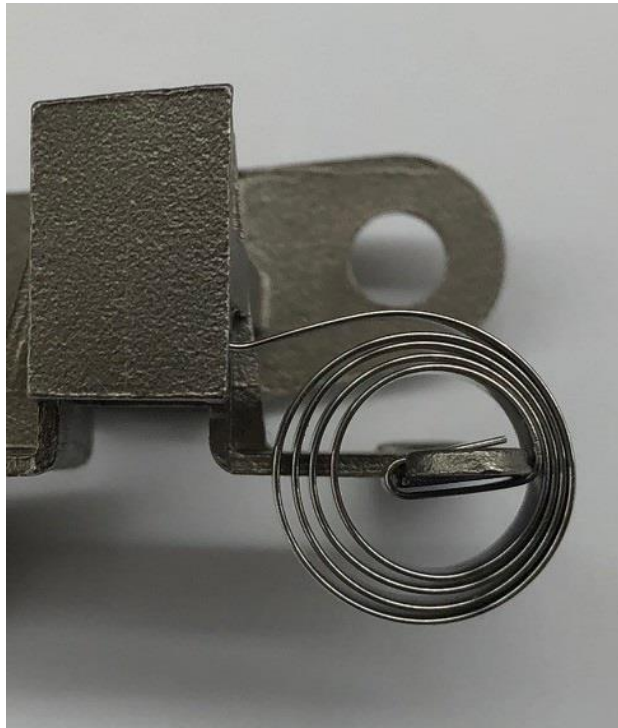
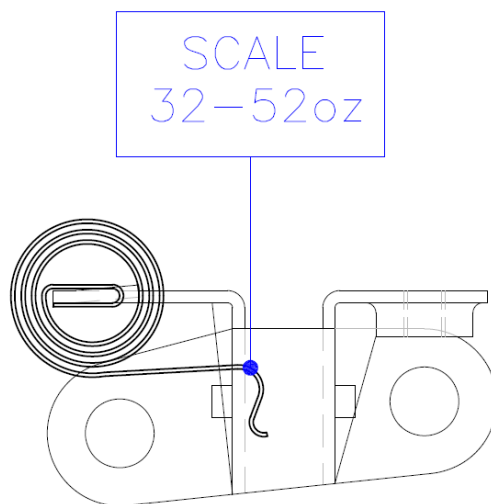

FIG. 3
FIG. 4
Install the spring on the holder as shown in Fig.1 below. Wind the spring as shown until the tang fits into the holder, FIG. 3. Then check the spring tension. Attach a scale as shown in FIG. 4. Lift the spring from its resting position to ¼ inch off the holder. The spring tension at ¼ inch should be 32-52 ounces.
If the spring tension is too low remove the spring and position 180 degrees clockwise as shown in FIG. 2. Wind the spring as shown until the tang fits into the holder, FIG. 3. Attach a scale as shown in FIG. 4. Then check the spring tension. Lift the spring from its resting position to ¼ inch off the holder. The spring tension at ¼ inch should be 32-52 ounces.
11.0 TESTING: As described in 9.0 and FIG. 4 above.